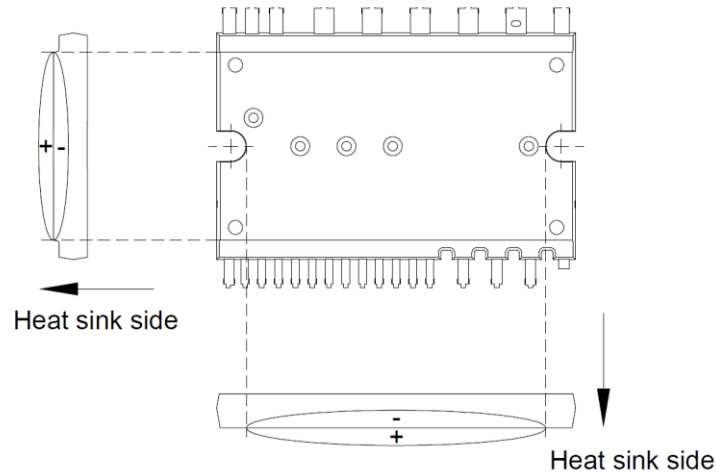

Figure 5. Flatness Measurement Position
- Fault signal (F_O) outputs when SC, UV or OT protection is triggered. F_O pulse width is different for each protection mode. At SC failure, F_O pulse width is fixed (minimum 20 μs) or controlled by RC network (see Figure 5), but at UV or OT failure, F_O outputs continuously until recovering from UV or OT state.
- (1) GND pattern: It is recommended to connect the control GND and power GND at a single point (N1). GND pattern should be separated at the one point of the shunt resistors.
- (2) COM pin: It is recommended to only use the (16) COM pin to minimize SC detection noise. Leave pin (9) NC (No Connection).
- (3) A Zener diode D1 (24V/1W) is recommended between each pair of control supply pins to prevent surge destruction.
- (4) Snubber capacitor: The wiring between the IPM and snubber capacitor (C3) including the shunt resistors should be as short as possible.
- (5) C_{SC} pin circuit: C4 should be placed as close to C_{SC} pin and COM (16) pin as possible to prevent protection function errors.
- (6) Bootstrap capacitors: It is recommended that all capacitors are mounted as close to the IPM as possible.
- (7) Input circuit: The R and C filter circuit should be mounted to reduce input signal noise by high speed switching. C should be placed as close to COM (16) pin as possible.
- (8) V_{CF} pin circuit: V_{CF} output is open drain type. The signal line should be pulled up to the positive side of the 5V/3.3V logic power supply with a proper resistor R3. For the detailed design guide, please refer to the Figure 5.